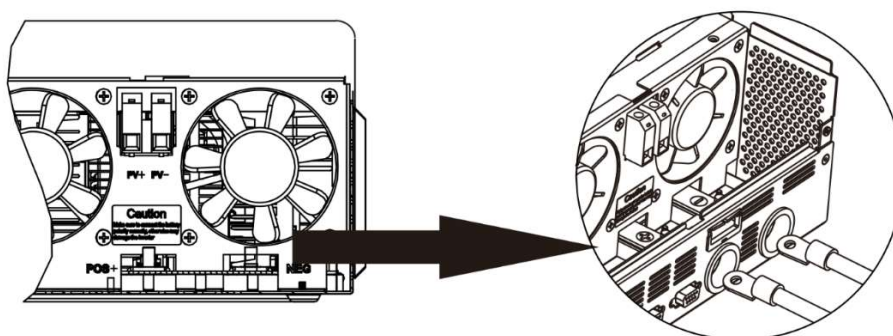

Fig. 6: Battery connection
2. Remove the pre-installed nuts from the battery terminal bolts. Insert the ring terminal of the battery cables through the casing holes (cable glands for 120 Vac models) and flat onto the corresponding battery terminal (**Fig. 6**). Screw down the previously removed nuts with a torque of 2 ~ 3 Nm (1.5 ~ 2.2 lbf-ft). Ensure the ring terminals sit flush on the connectors.